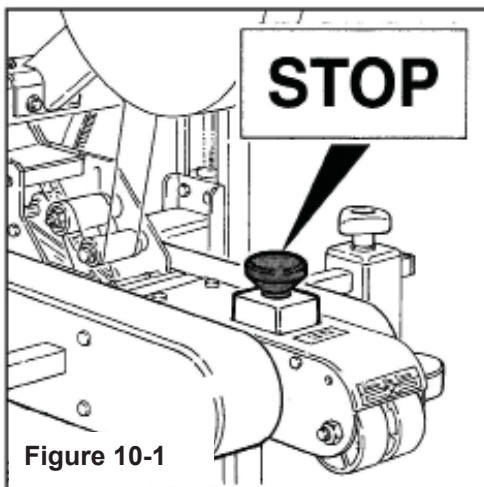

Figure 10-1
The machine electrical supply can be turned off by pressing the latching emergency stop switch. To restart machine, rotate the emergency stop switch clockwise to release the switch latch (**Figure 10-1**). Restart machine by Pushing the On/Off switch to the Off (O) position and then to the On (I) position.